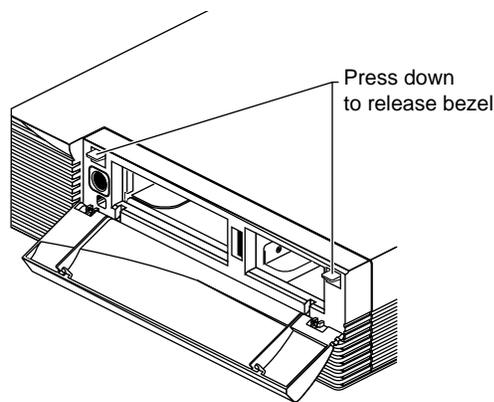

Figure 2-3 Releasing the Bezel
2. Press down on the tabs on each side of the bezel (Figure 2-3).